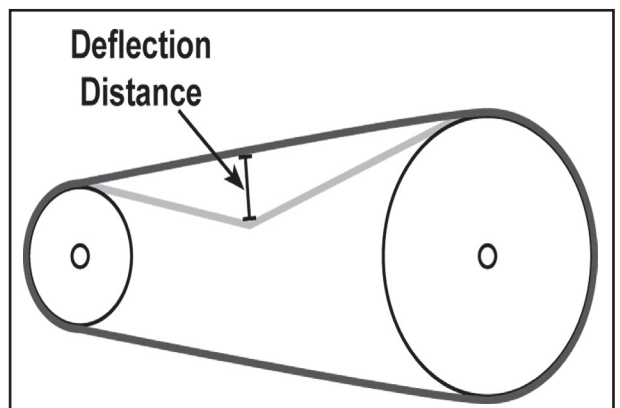

Fig.11
11. Move the drive belt to the desired speed position, refer to speed chart inside belt cover. Manually move the motor away from the feed handle until the belt is tensioned, tighten motor lock knob. The belt is properly tensioned when the deflection distance is 1/2" when pushed by hand (Fig.11).